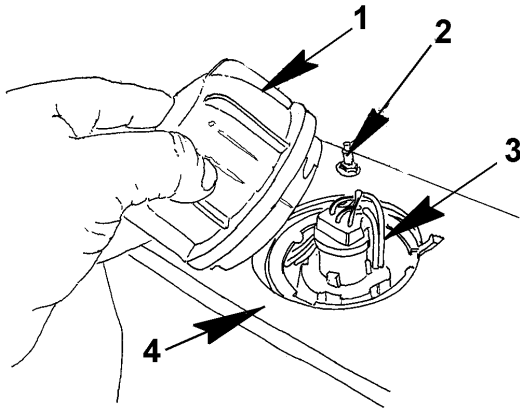

Figure 52 Head Lamp Replacement
2. Turn the socket cover and remove (Figure 52, Item 1).